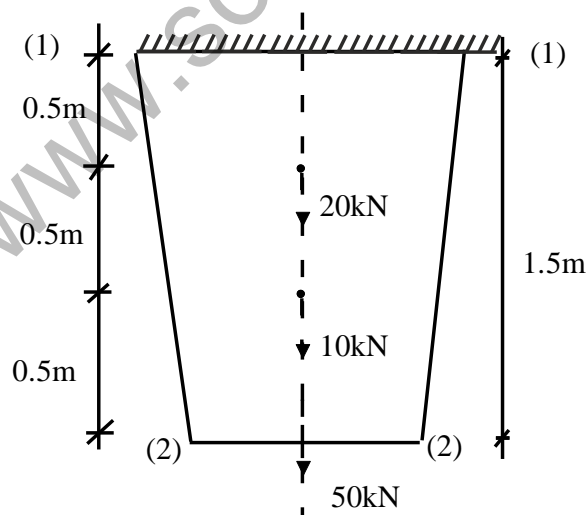

Fig:10
12. Using finite element method, derive the displacement matrix. Also find member strain and stress, for the steel specimen shown in fig. 10. 13